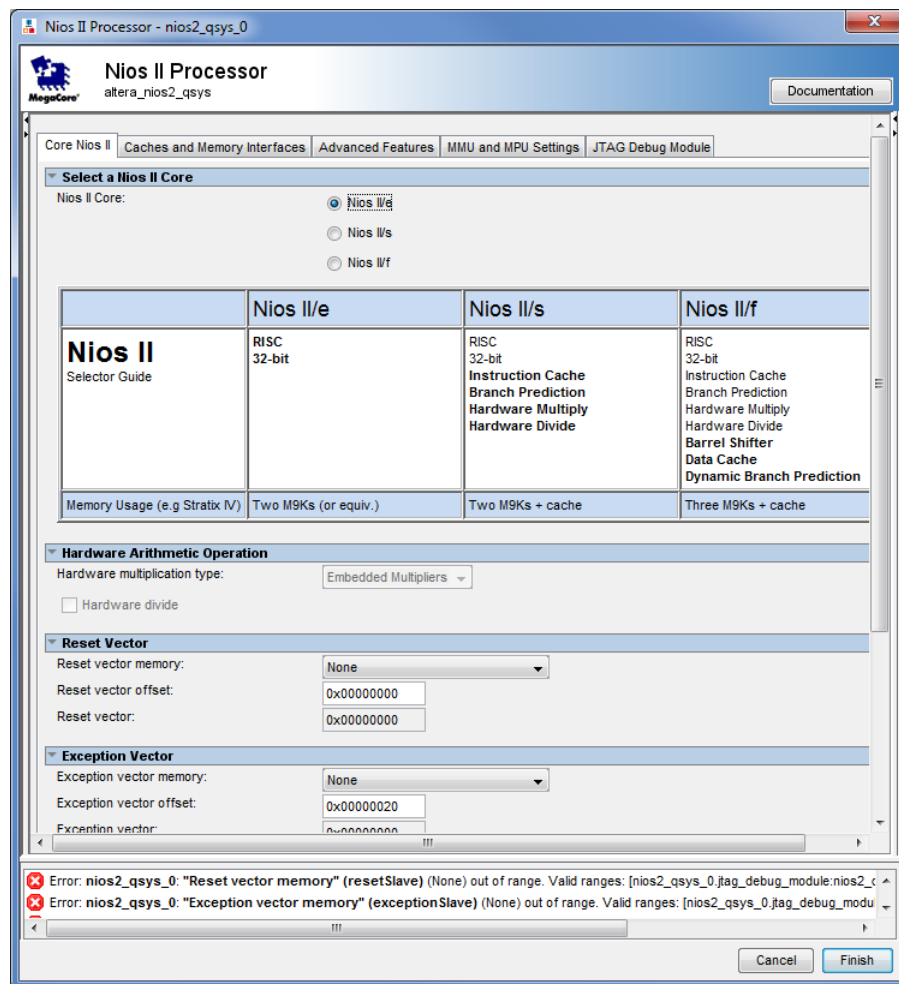

Figure 6. Create a Nios II processor.
- On the left side of the Qsys window expand **Embedded Processors**, select **Nios II Processor** and click **Add**, which leads to the window in Figure 6.